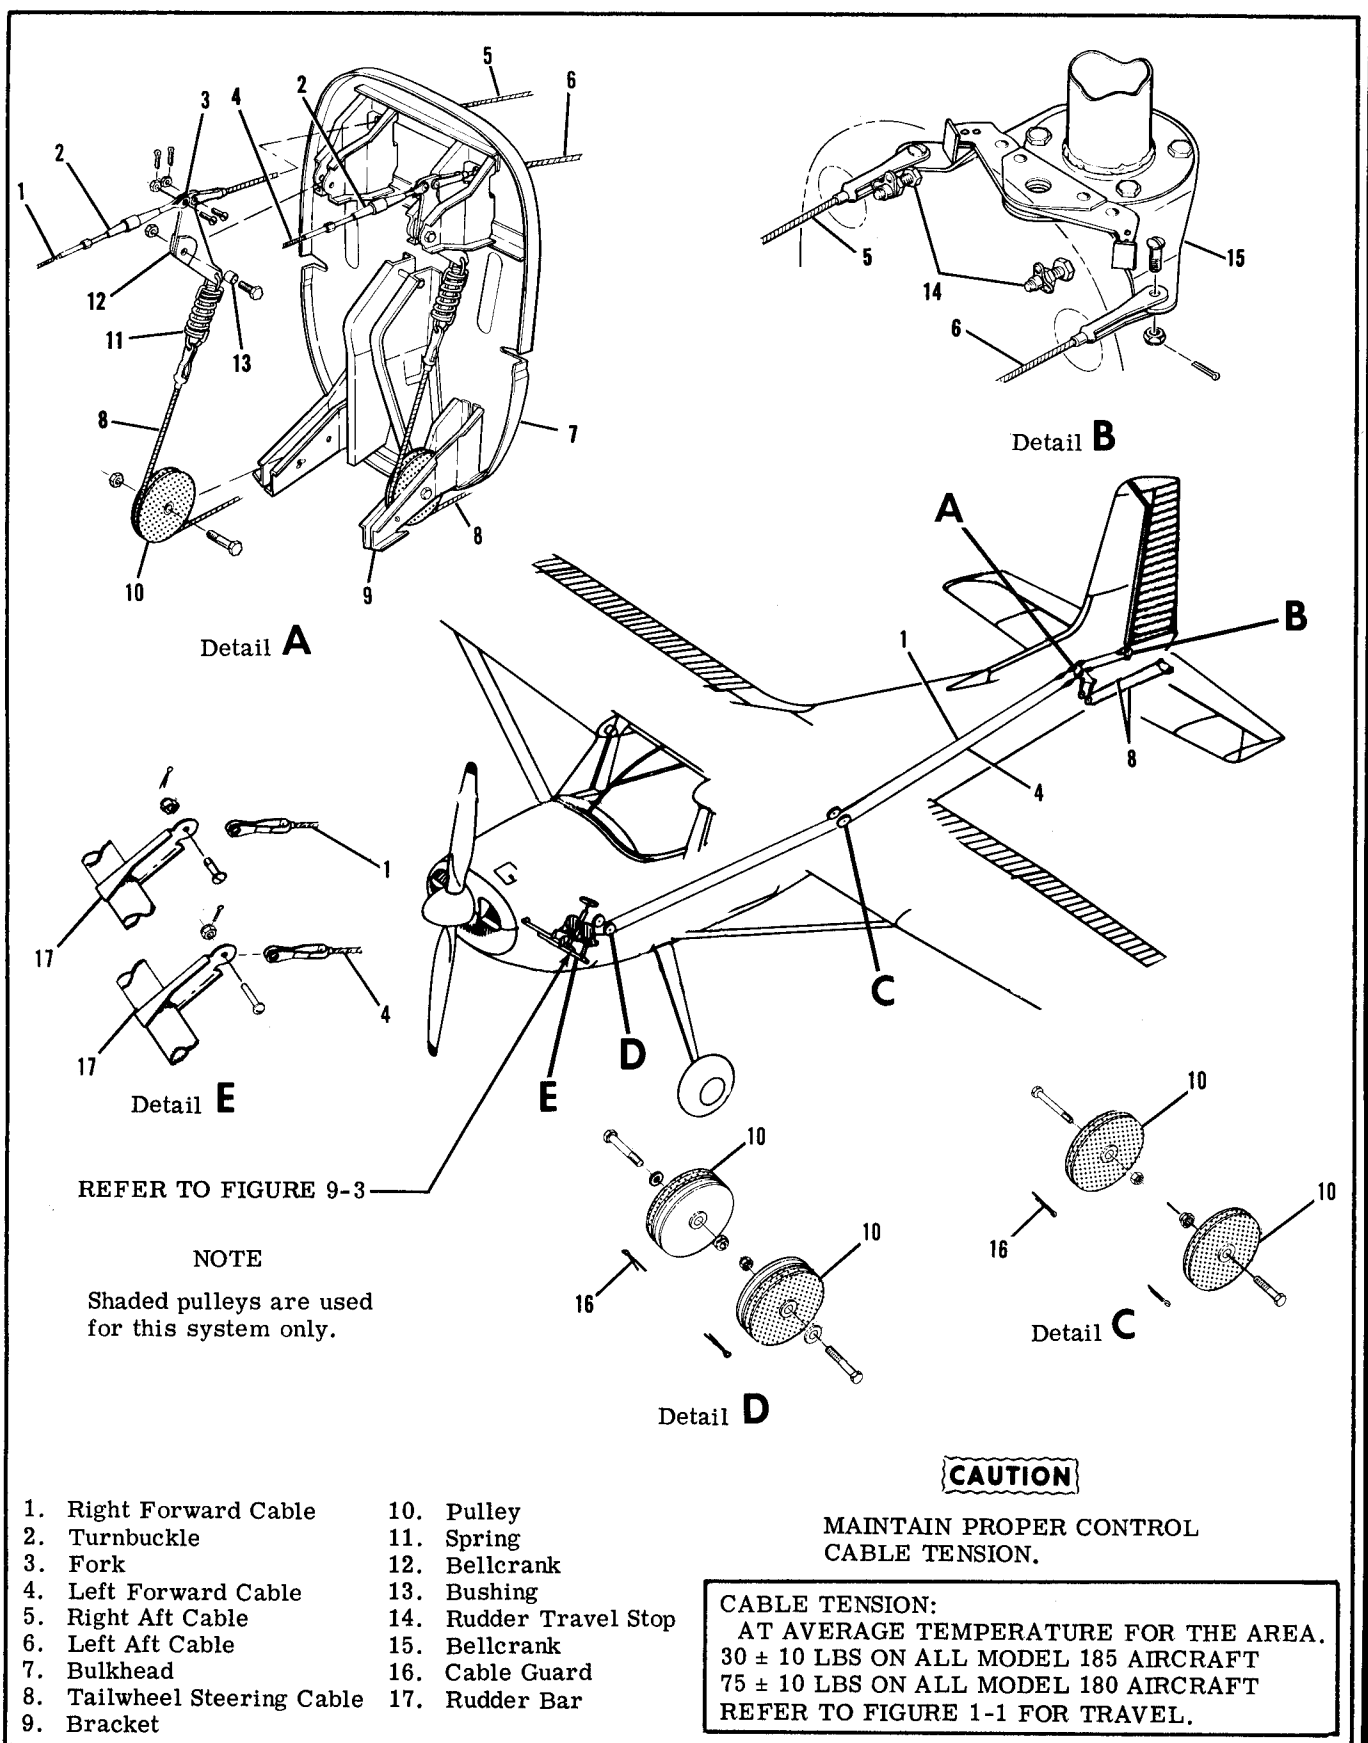

Figure 9-1. Rudder Control System
9-1. RUDDER AND RUDDER TRIM CONTROL SYSTEMS. (Refer to figures 9-1 and 9-3.)
- Disconnect master cylinders (16) and parking brake cables at pilot's rudder pedals.
- Remove all rudder pedals (14) and all brake links (17).
- Disconnect stowable rudder pedal controls (1), if installed.
- Remove access plate from underside of tailcone below turnbuckles (index 2, figure 9-1), remove safety wire and relieve cable tension.
- Disconnect cables from rudder bar arms (15).
- Disconnect return springs (4) from rudder bar arms (15) on aircraft NOT equipped with rudder trim control system.
9-7. REMOVAL AND INSTALLATION. (Refer to figure 9-1.)
9-10. REMOVAL AND INSTALLATION. (Refer to figure 9-1.)
1. (Refer to figure 9-1.) Remove access plate from underside of tailcone below turnbuckles (2).
3. Disconnect trim bungee (13) from rudder bar arm.
4. Adjust turnbuckles (index 2, figure 9-1) and turnbuckle (11) evenly to 30 ± 10 lbs tension on the Model 185 and 75 ± 10 lbs tension on the Model 180 while maintaining a rudder offset of 1° to the right (5/16 inch at lower trailing edge of rudder).